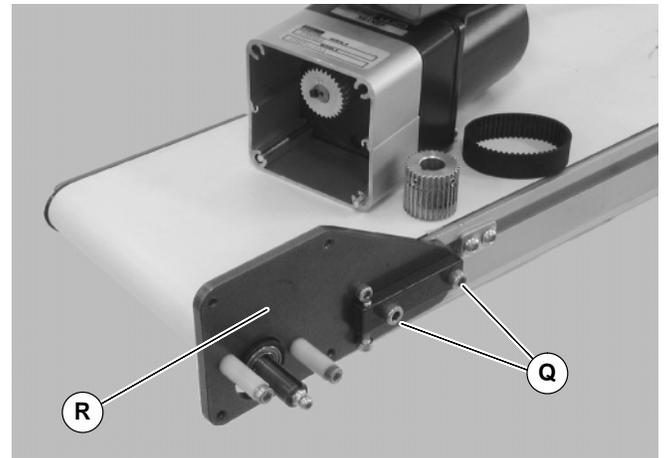

Figure 16
- d. Remove (2) mounting screws (Q of Figure 16).